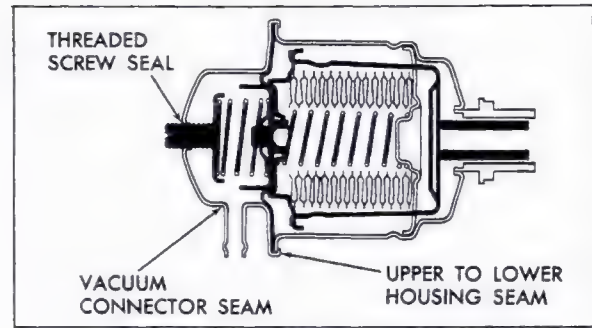

Fig. 7-22 Vacuum Modulator - Sectional
2. Atmospheric Leak Check. Apply a liberal coating of soap bubble solution to the vacuum connector pipe seam, the crimped upper to lower housing seam, and the threaded screw seal, Fig. 7-22. Using a short piece of rubber tubing, apply air pressure to the vacuum pipe by blowing into the tube and observe for leak bubbles. If bubbles appear, replace the modulator.